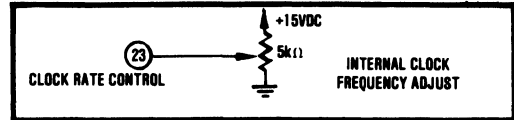
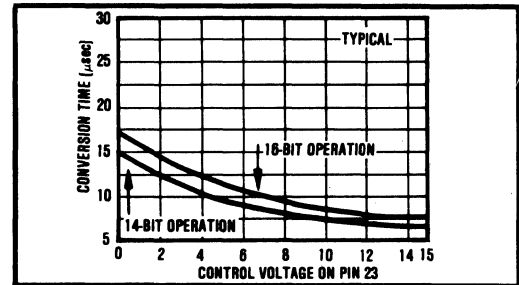

FIGURE 12. Clock Rate Control, Optional Fine Adjust.
FIGURE 13. Conversion Time vs. Clock Rate Control Voltage.
8. Adjustable with Clock Rate Control from approximately 933kHz to 1.4MHz. See Figures 12 and 13 and Table III.
If a more precise adjustment of conversion time is desired than can be obtained by simply connecting the Clock Rate Control (pin 23) to Digital Common or +5V, as indicated in Table III, the Clock Rate Control may be connected to an external multitrain trim potentiometer with a TCR of $\pm 100\text{ppm}/^\circ\text{C}$ or less as shown in Figure 12. The typical conversion time versus the Clock Rate Control voltage is shown in Figure 13. The effect of